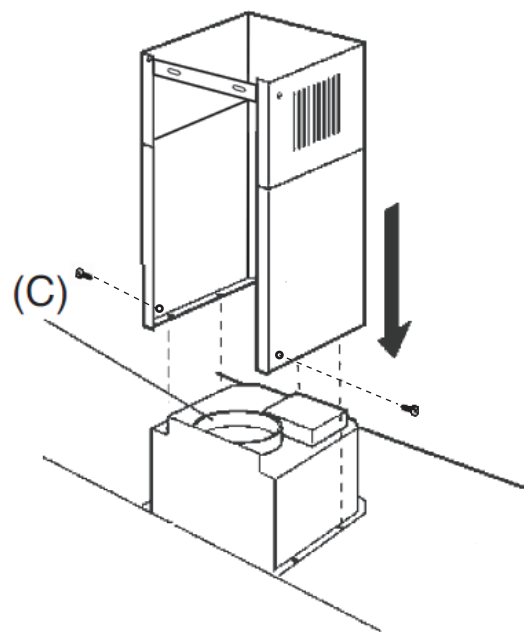

Fig.3
Install butterfly flaps into the outlet on the top of the hood (C) (Fig.3).
Some models will require the lower flue cover to be fixed from underneath using the provided screws (Fig.3)